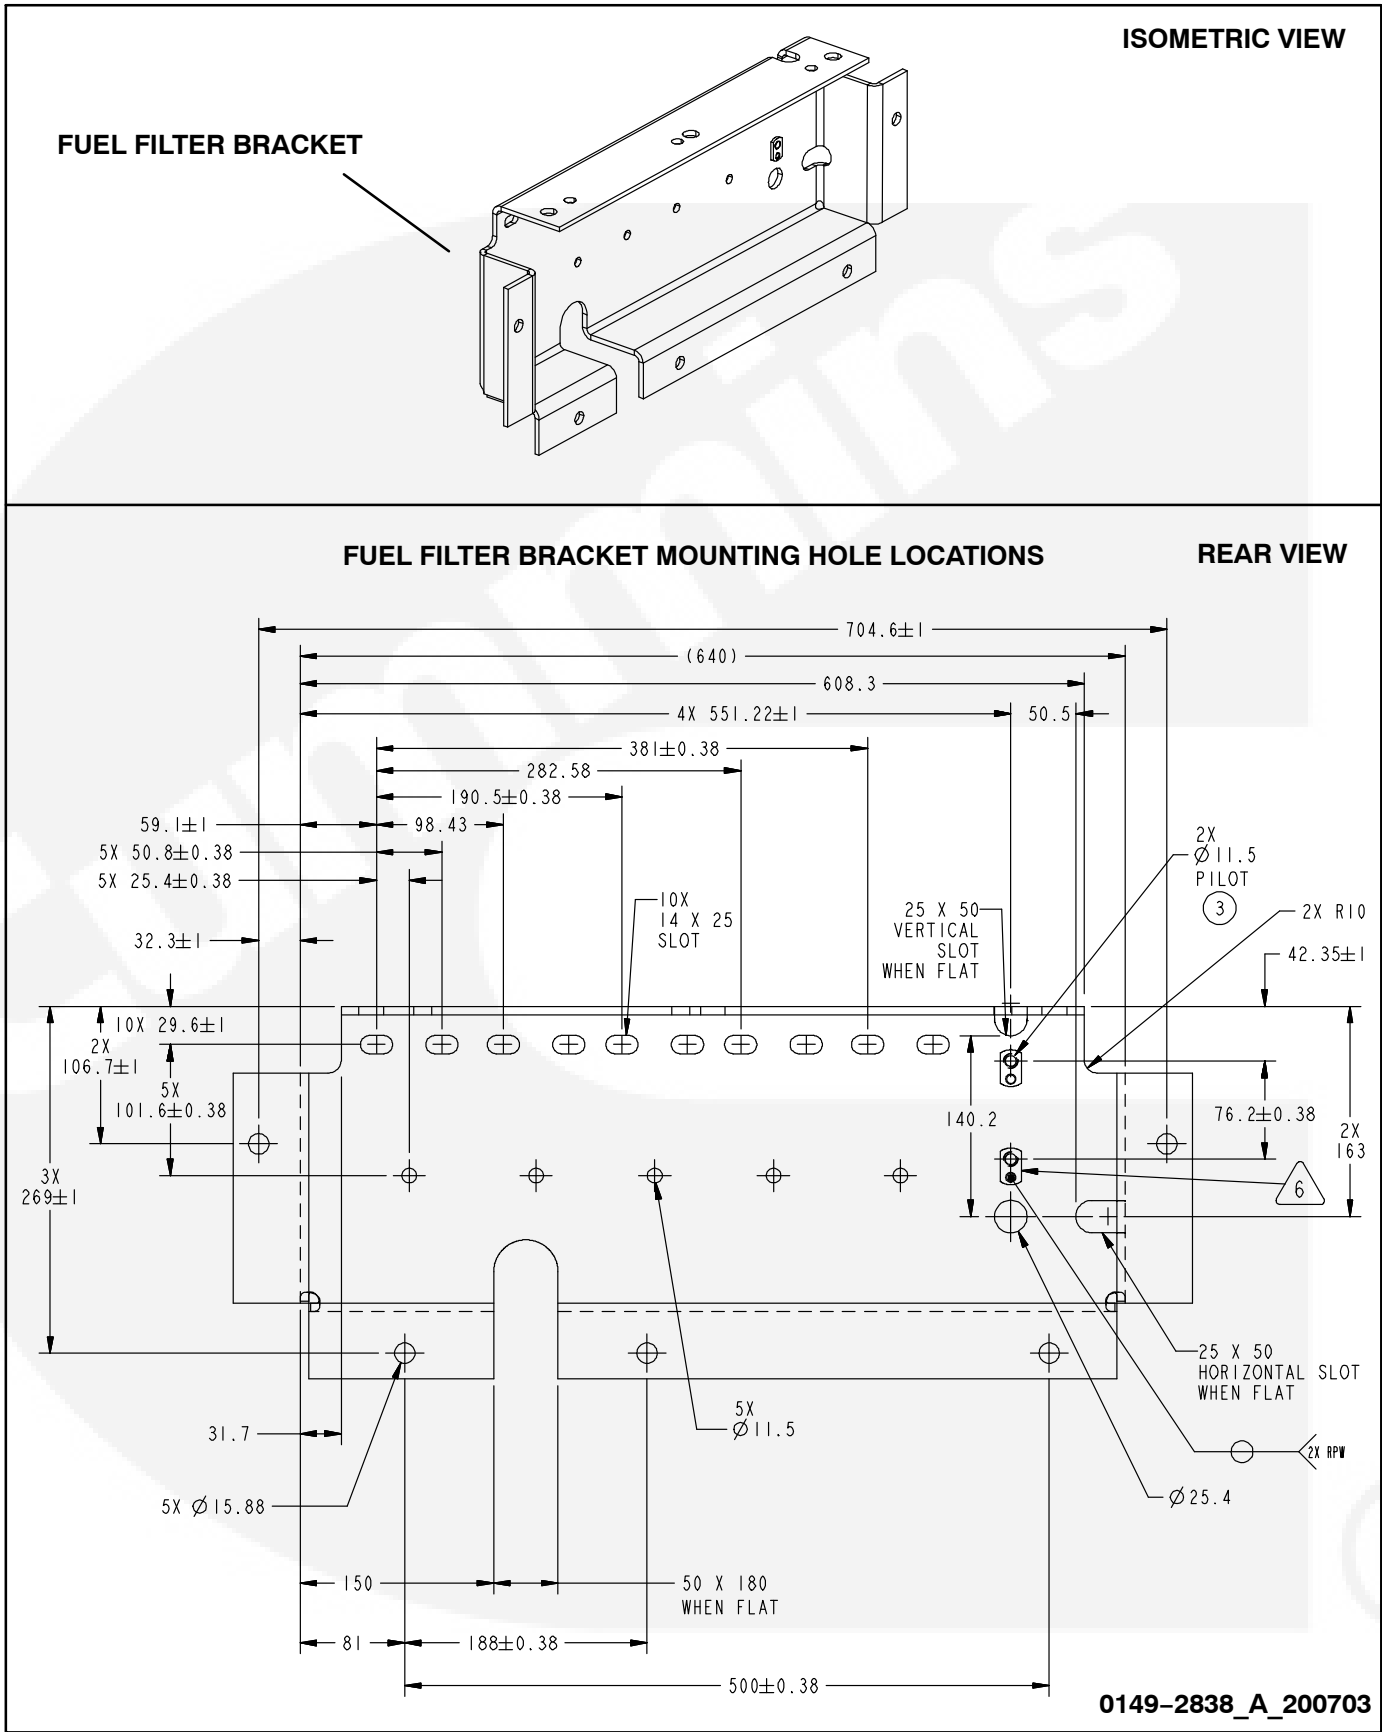

FIGURE 4-5. FUEL FILTER BRACKET
**Note:** See Figure 4-5 for Fuel Filter Bracket drawing and its measurements.